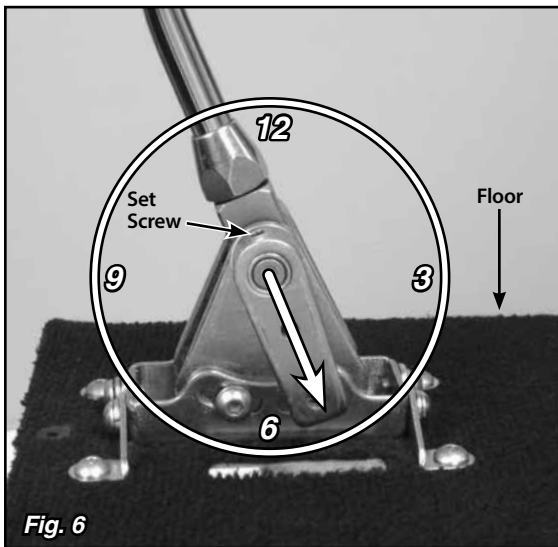

Fig. 6
Step 6: Make sure the shifter is in the Park position. Check the position of the quad lever. It should be pointing to about the 5:00 position. **Fig. 6** If it is not, loosen the set screw in the top of the quad lever with a 1/8" Allen wrench and slide the quad lever off of the shaft. The shifter may have to be removed to do this, depending on how large the opening is in the tunnel. Reposition the quad lever on the shaft at approximately the 5:00 position, and retighten the set screw.